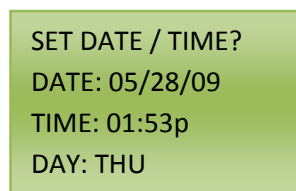

Figure 15.3
- a. This Action allows for the current date and time to be programmed into the Time-Keeper®. The cursor will be on the colon between the words DATE and 01/01/07. Press the RIGHT Arrow to move the cursor over to the Month. Use the UP or DOWN Arrow to change the Month. Press the RIGHT Arrow to move the cursor over to the Day. Use the UP or DOWN Arrow to change the Day. Press the RIGHT Arrow to move the cursor over to the Year. Use the UP Arrow to change the Year. To return the colon between the words DATE and 01/01/07, press the LEFT Arrow three times. See Figure 15.3 for an example.